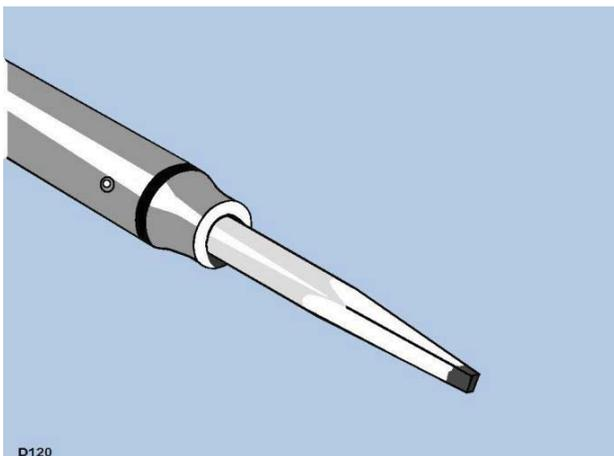

Fig. 4-1. Soldering tip preparation.
Because of the shape of the terminals on the ceramic strips it is advisable to use a wedge-shaped tip on your soldering iron when you are installing or removing parts from the strips. Fig. 4-1 will show you the correct shape for the tip of the soldering iron. Be sure and file smooth all surfaces of the iron which will be tinned. This prevents solder from building up on rough spots where it will quickly oxidize.
2. Prepare the tip of the iron as shown in Fig. 4-1.